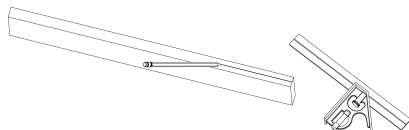

FIG. 8
1. Begin by scribing a centerline on your work piece. This will indicate where your mortise(s) will be positioned. **Once you set your Pocket Mill Pro, continuous cuts will be the same until you re-adjust the mounting plate. (See Figure 8)